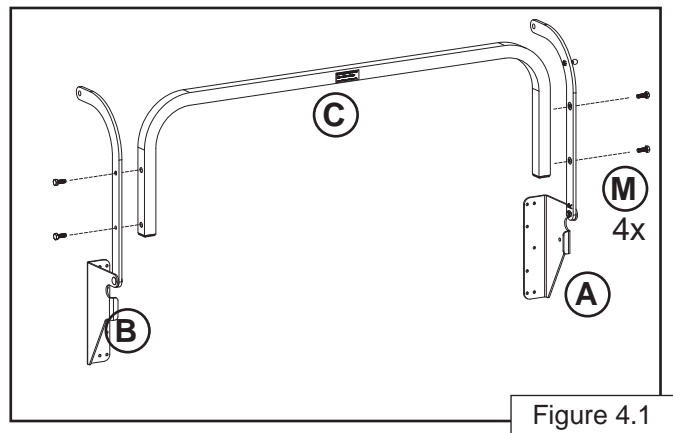

Figure 4.1
1. Locate the Right & Left Pivot Assemblies, Crosslink, and (4) ¼"-20 Hex Bolts (Figure 4.1).
2. Orient (Figure 4.1) on floor and attach (A and B to C using (4) ¼"-20 Hex Bolts (M).